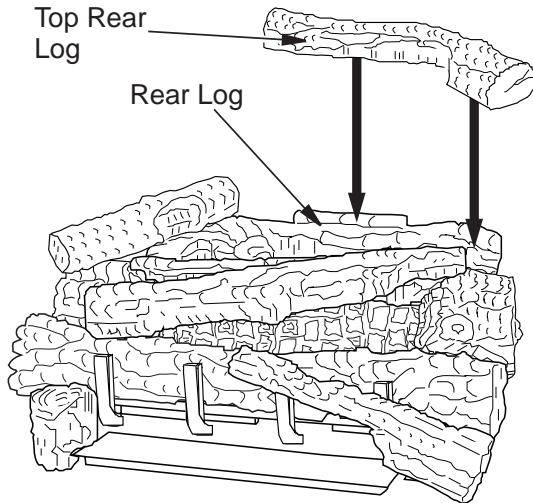

Figure 34 - Installing Top Rear Log
11. Place the top rear log onto the rear log as shown. The rear log has a projection that will fit into the recess area on the bottom of the top rear log (see **Figure 34**).